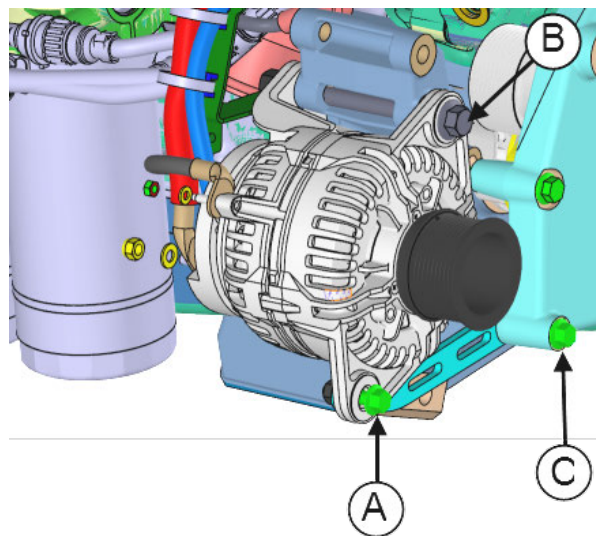

FIGURE 46
5. Reinstall the alternator using previously removed bolts **A** & **B** (**FIGURE 46**).
6. To ease installation, loosen bolt **C** if necessary (**FIGURE 46**).